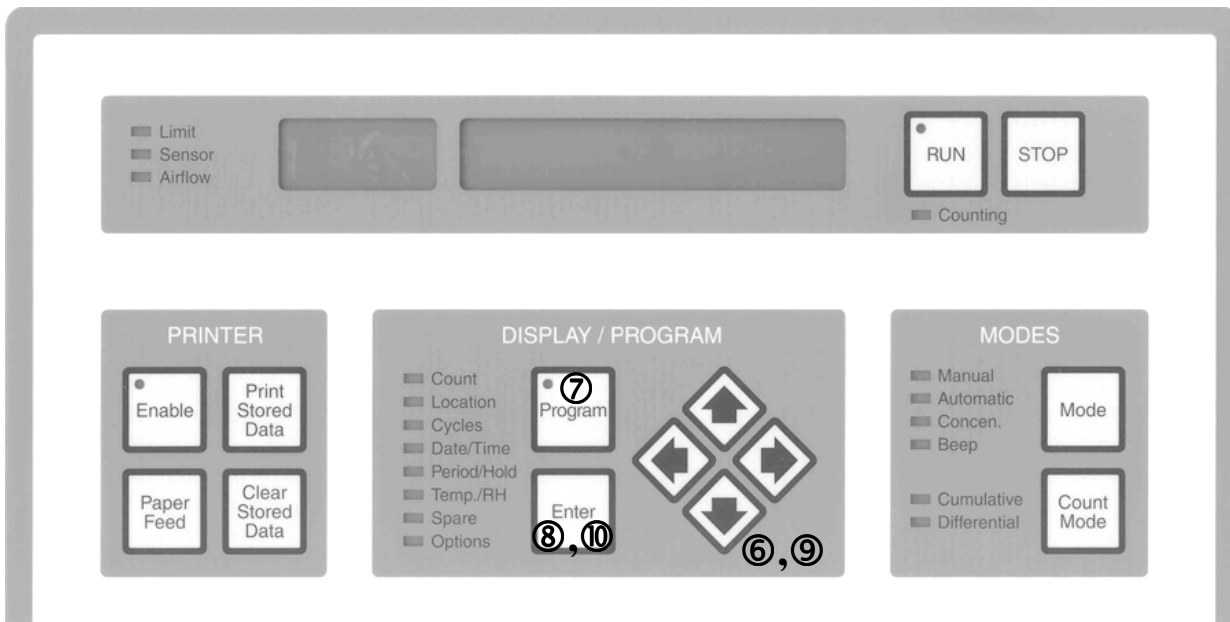

Figure 7. Particle Counter Cycle and Location Programming
6. At the Particle Counter, (figure 7) press ↓ until “Cycles” LED is Lit